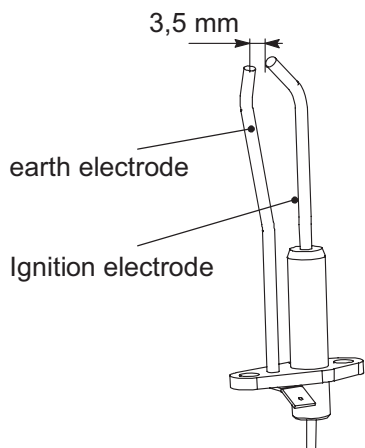
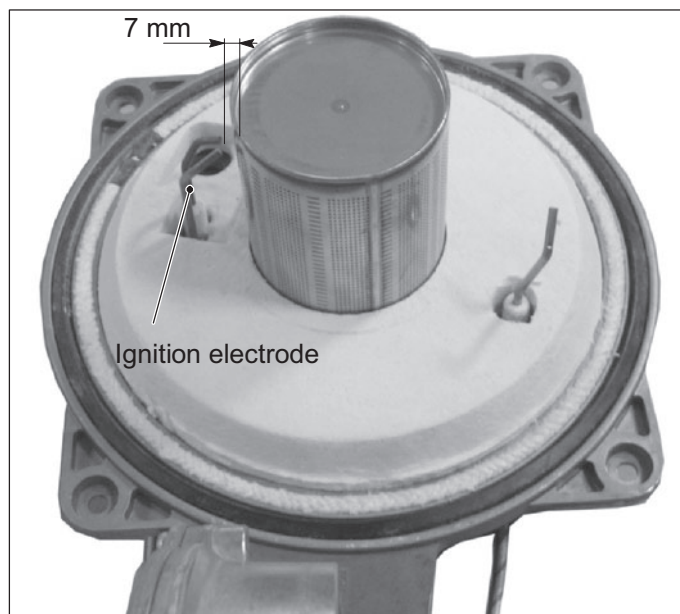

Figure 18.8
Figure 18.9
- 2 Check for the correct distance between the metallic edges of the ignition electrode (see **Figure 18.8** - **Figure 18.9**).